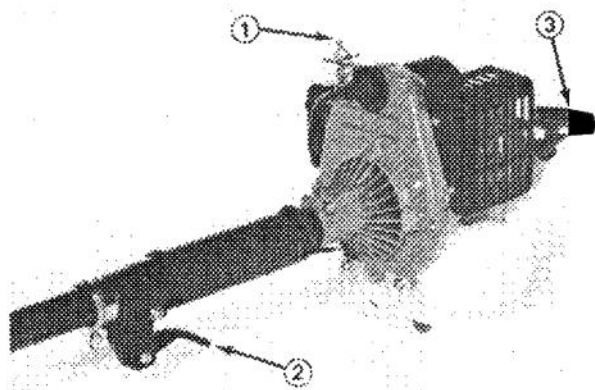

Figure 27
1. Lay Trimmer on flat surface with engine in upright position (Fig. 27).
2. Move ignition switch to "ON" position (Fig. 27).
4. Squeeze throttle trigger to hold throttle in fully open position (Fig. 27).
5. Pull recoil starter handle out slowly until starter ratchets are engaged, then pull handle with short, sharp strokes until engine starts (Fig. 27). Move choke lever to "OPEN" position after engine starts and release throttle to allow the engine to idle. Close choke momentarily if engine starts to die. Continue monitoring choke until engine is warm.
2. Move ignition switch to "OFF" position to stop engine (Fig. 27).